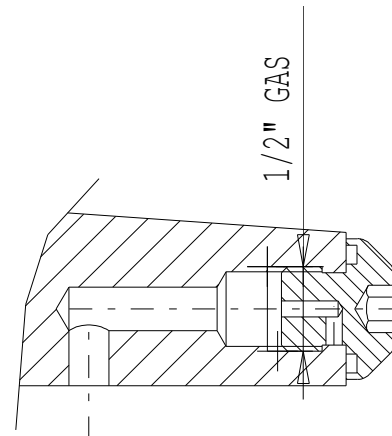

Fig. 9
- Open the 1/2" gas plug placed on the bushing flange (fig. 9). For this operation use a hexagonal wrench of 10 mm;
A 1/2" gas plug is placed on the bushing flange (fig. 9) in order to: